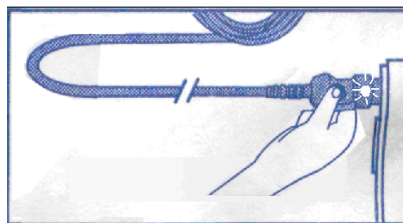

Figure 7-6 Rezeroing the system
- 1) With the catheter connected to the IUP cable, momentarily pressing the re-zero button on the pressure cable (See Figure 7-6). The green light on the cable will flash for five seconds.